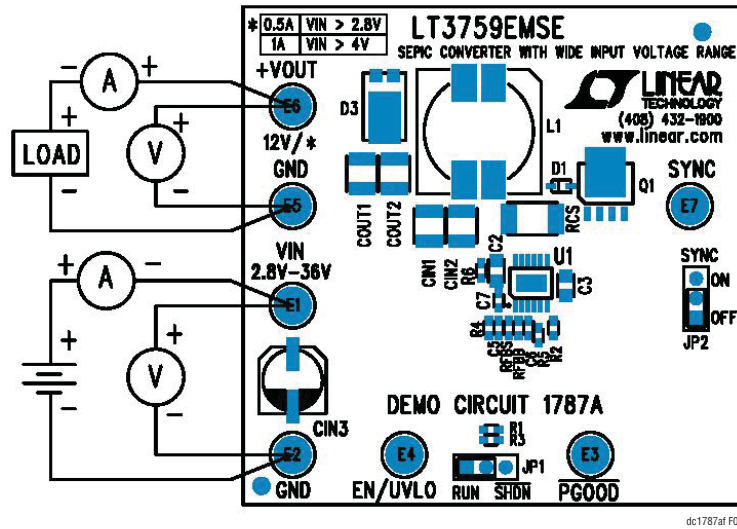

Figure 1. Proper Measurement Equipment Setup
Demo circuit 1787A is easy to set up to evaluate the performance of the LT3759. Refer to Figure 1 for proper measurement equipment setup and follow the procedure.
2. Connect load to the  $V_{OUT}$  (E6) and GND (E5) terminals on the demo circuit. Connect voltage and current meters as shown in Figure 1. Preset the load to 0.5A or less, and  $V_{IN}$  supply to be 0V.